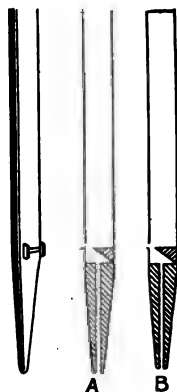

FIG. 373. — Organ pipes: (A) open, and (B) closed.
404. Wind instruments. The simplest wind instrument is the **organ pipe**. Sometimes the tube is open at the upper end and is called an *open pipe* [Fig. 373 (A)]; at other times the pipe is closed at the upper end and is called a *closed pipe* [Fig. 373 (B)].